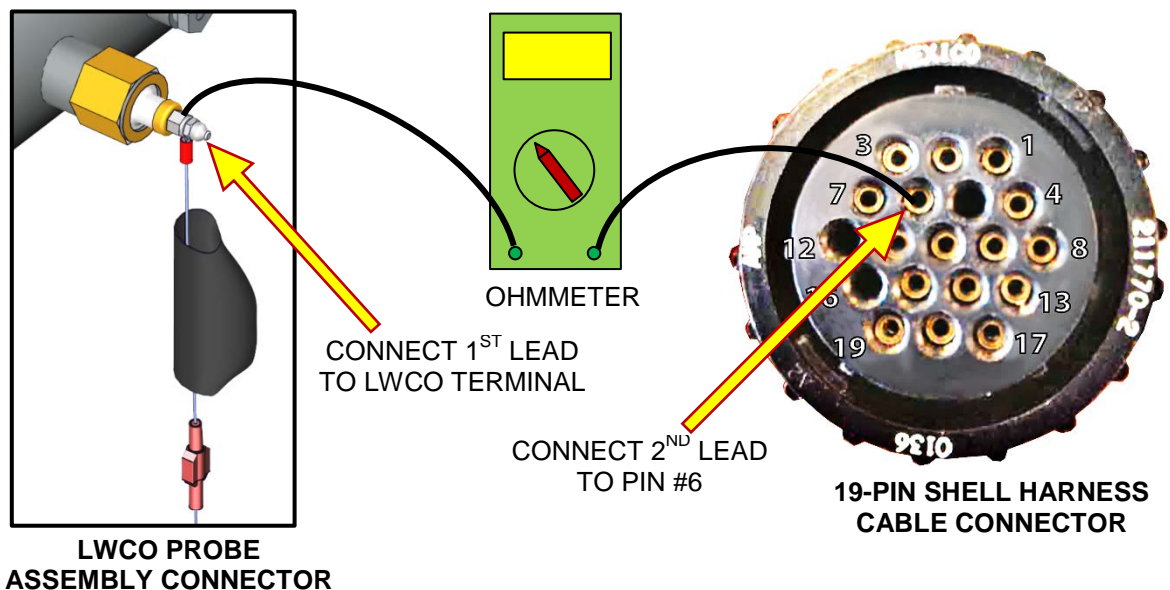

Figure 4-11: Connecting Ohmmeter between LWCO Probe & Shell Harness Cable
3. Using an ohmmeter, connect one ohmmeter probe to the LWCO capacitor terminal on the unit shell as shown on left in Figure 4-11.
4. Connect the second ohmmeter probe to Pin #6 of Shell Harness Connector (removed from the C-More controller) as shown on right in Figure 4-11.